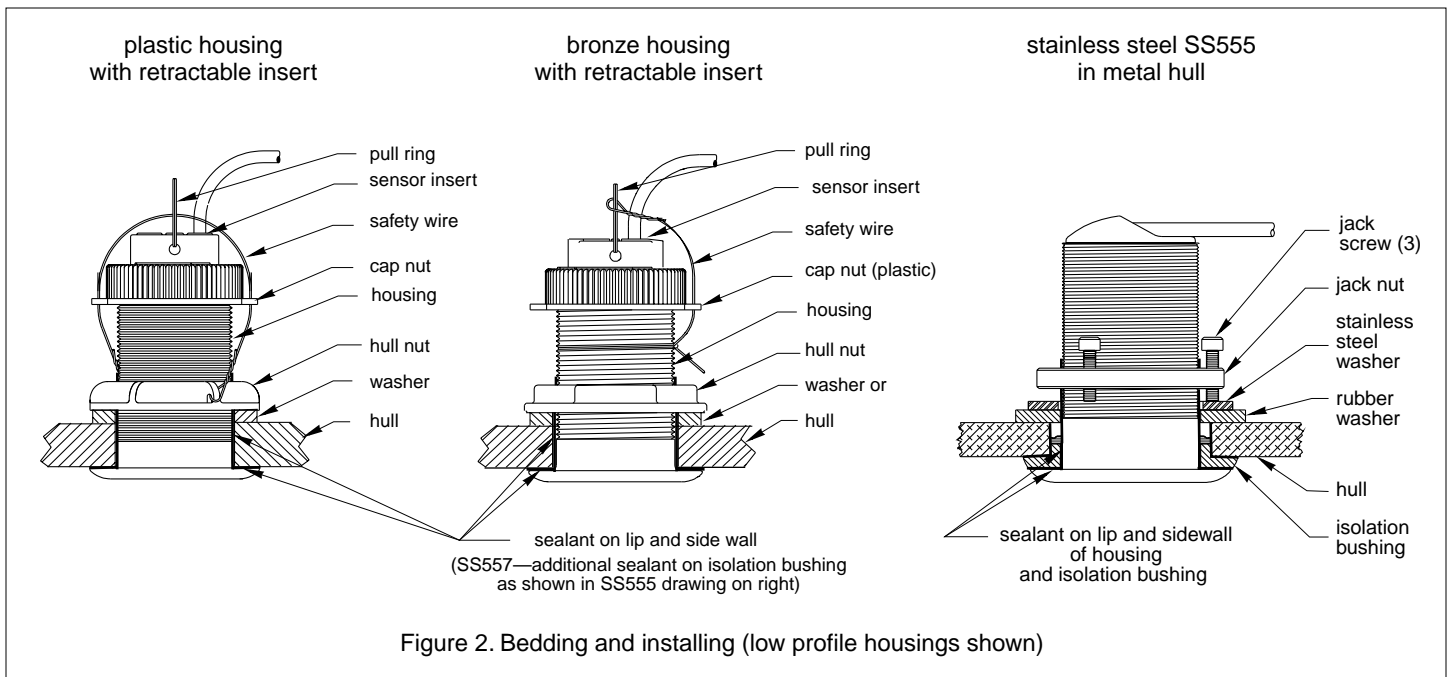

Figure 2. Bedding and installing (low profile housings shown)
1. Remove the hull nut and washer (see Figure 2).
1. From outside the hull, push the housing into the mounting hole using a twisting motion to squeeze out excess sealant (see Figure 2).
2. Remove the paddlewheel insert from the housing by removing the safety wire and unscrewing the cap nut (see Figure 2).